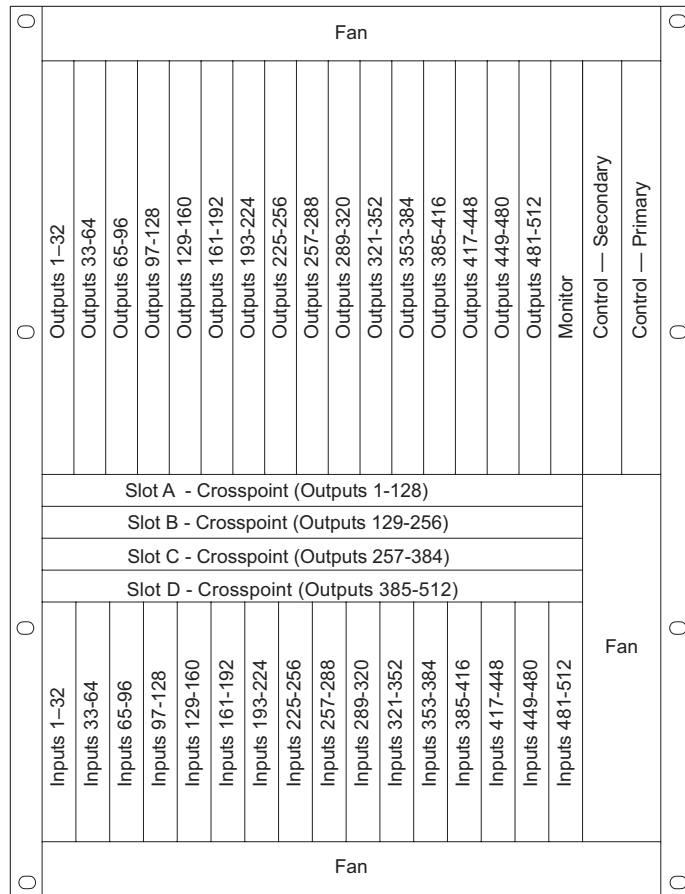

Figure 1-4. Inputs and Outputs, Numbers Assigned (Front View)
The router has 16 slots for input cards and 16 slots for output cards. Slots are numbered 1, 2, and so on, from left to right, when facing the front of the router. Each input card slot and output card slot, and the card it holds, receives or distributes signals through coaxial connectors housed on a back-plane. Each signal is assigned a number that corresponds to the physical input or output connection up to the maximum number of signals allowed (32). The signal numbers correspond to the slot in which an input card or output card is installed: Input slot 1 corresponds to inputs 1–32, input slot 2 corresponds to inputs 33–64, and so on, up to 512, as shown in Figure 1-4 on page 11. Output slots are similarly numbered, such that output slot 1 corresponds to outputs 1–32, output slot 2 corresponds to outputs 33–64, and so on, up to 512, as shown in Figure 1-4 on page 11.